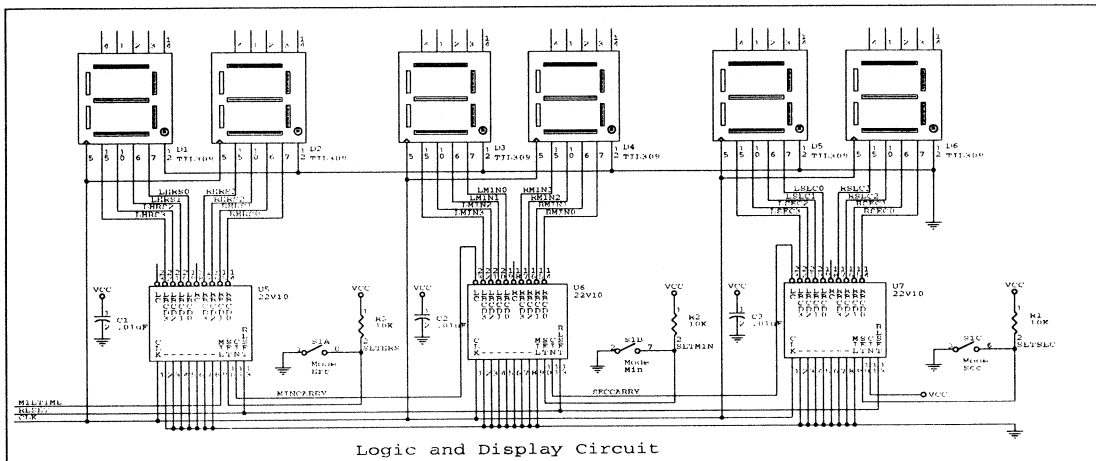
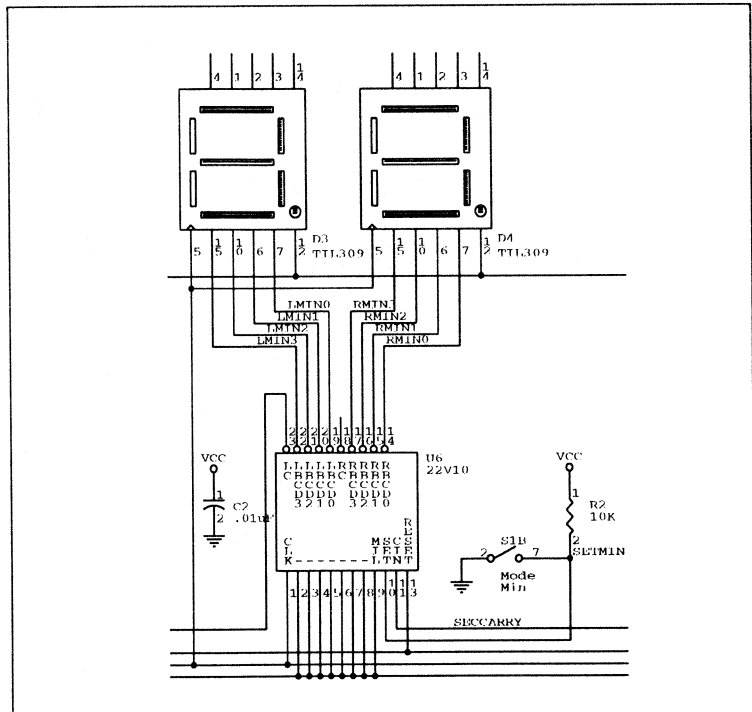

Figure 6-1. The logic and display circuitry.
Figure 6-2. The minutes circuit.
Figure 6-1 shows the portion of the schematic you capture in this chapter.
As you look at the schematic of the logic and display circuitry in figure 6-1, it becomes apparent that three regions are nearly identical—seconds, minutes, and hours. Take advantage of this duplication by creating the schematic for the minutes area (figure 6-2), and copying it to the other areas.
The display and logic circuit shown in figure 6-1 contains so much detail that your immediate task of capturing the minutes area may seem more difficult than it actually is. Figure 6-2 shows only the parts and wires associated with the minutes area of the schematic.
By comparing figure 6-2 with figure 6-1, you see the similarities in each of the areas. The steps in the next section describe how to build the minutes circuit.
5. Select **Rotate** to change the part orientation to match the part orientation shown in figure 6-2.
2. Referring to figure 6-2, move the pointer to the bottom of the resistor symbol and select **Place Wire Begin** to start drawing a wire.
1. Referring to figure 6-2, draw the wires between the 22V10 part and the right-hand seven-segment display, as shown. Instead of pressing the <P>, <W>, and keys, just press <F1>, and then proceed as usual.
2. Continue using the macro to draw the wires between the 22V10 part and the left-hand seven-segment display, as shown in figure 6-2.
3. Select **REPEAT** six more times to place the remaining wires of this length shown in figure 6-2.
4. Place a single horizontal wire along the bottom of these wires as shown in figure 6-2.
1. Select **PLACE Power Place** to put power symbols above the resistor and capacitor symbols, as shown in figure 6-2.
4. Place the remaining wires shown in figure 6-2.
5. Place junctions at the remaining locations shown in figure 6-2.
6. Examine your worksheet and carefully compare it with the schematic in figure 6-2. The exact position of objects is not as important as the presence or absence of these objects.